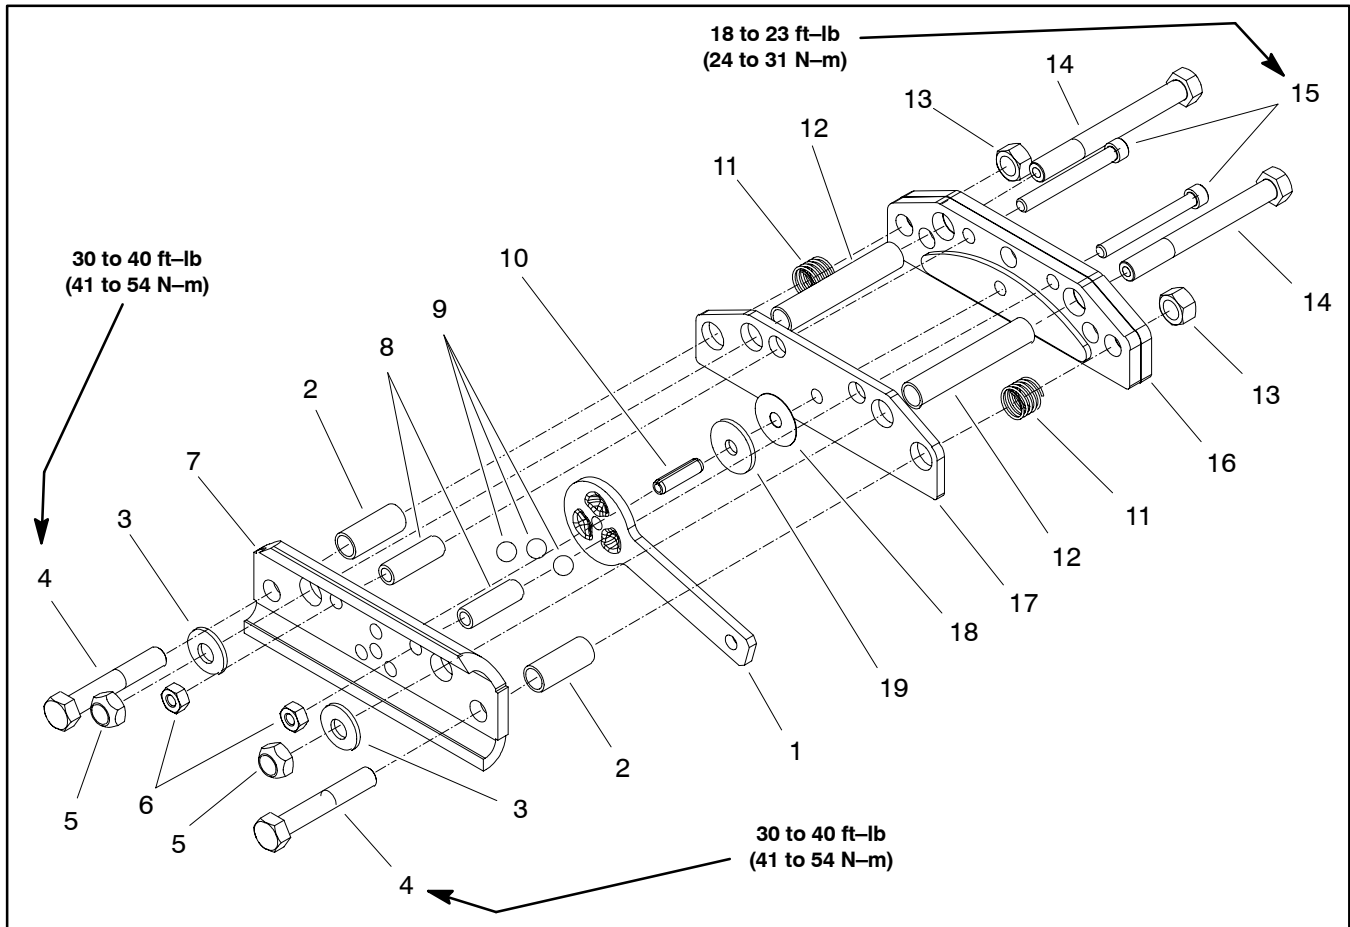

Figure 8
### **Disassembly (Fig. 8)**
### **Assembly (Fig. 8)**
2. Assemble brake components in order using Figure 8 as a guide.
3. Secure brake assembly with hex bolts (item 4), socket head screws (item 15) and hex nuts (items 5 and 6). Torque fasteners to values identified in Figure 8.